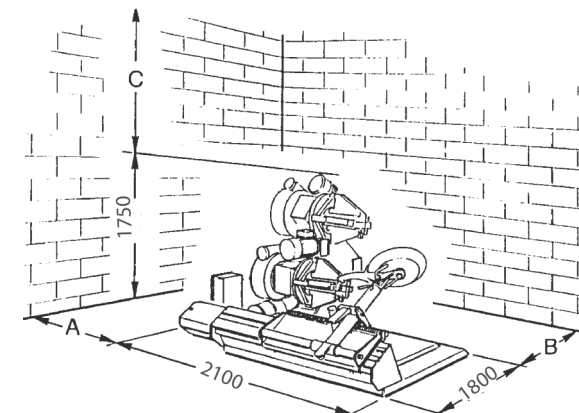

fig.16
**COLLOCAMENTO (fig.16)**
**LOCATION (fig.16)**
Ved. Fig. 16 dimensioni A - B - C
See Fig. 16 dimensions A - B - C
## PLACEMENT (fig.16)
V. Fig. 16 dimensions A - B - C
## AUFSTELLEN (Abb.16)
Siehe Abb. 16, Außenmaße A - B - C
## COLOCACION (fig.16)
Véase Fig. 16 dimensiones A - B - C